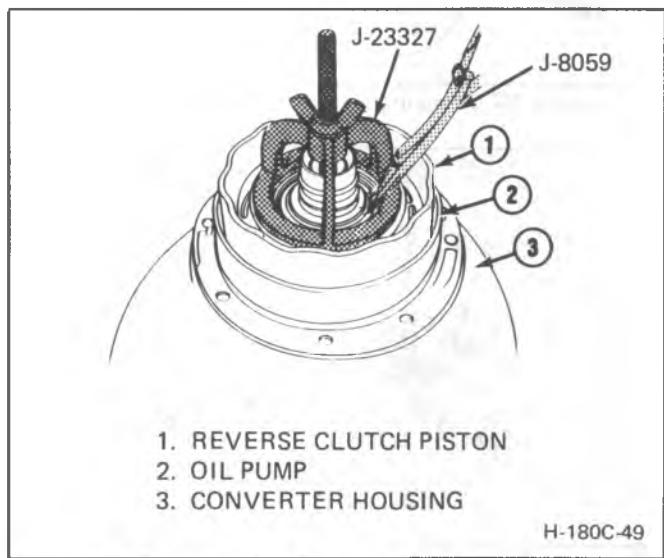

Figure 45 Compressing Reverse Clutch Piston Retainer
3. (2) Piston oil seals.
**Assemble (Figures 45 and 46)****Tools Required**